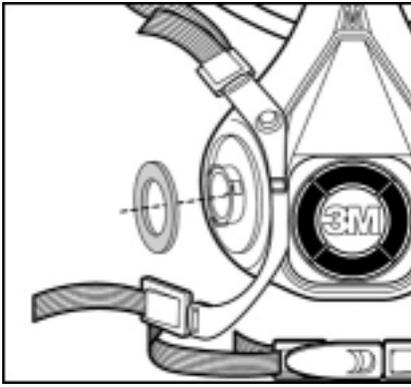

Fig. 18
1. Remove gaskets from facepiece inhalation port bayonet fittings. (Fig.18)